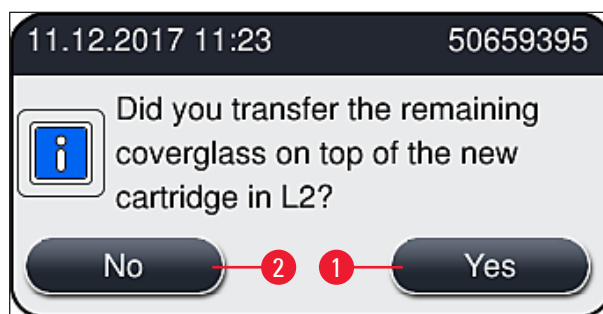

Fig. 63
8. After closing the hood, the user is questioned as to whether the remaining coverglass have been inserted into the new coverglass cartridge (→ Fig. 63). If this is the case, acknowledge the information message with **Yes** (→ Fig. 63-1). If no coverglass have been inserted, acknowledge the information message with **No** (→ Fig. 63-2).